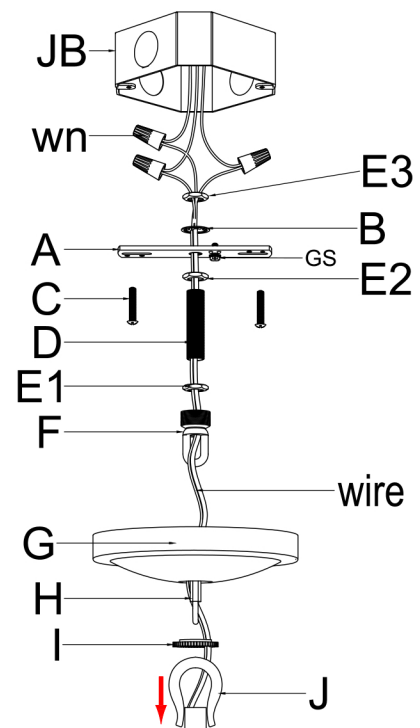

Fig. 3
CONNECTING THE WIRE (Fig. 3)
11. Connect the electrical wire as shown in Fig. 3, making sure that all the wire connectors are secured. If your junction box has a ground wire (green, or bare copper), connect fixture's ground wire to it. Otherwise connect fixture's ground wire directly to the crossbar (A) using green screw provided.
12. Tuck wire connections neatly into junction box (JB).
13. Raise canopy over collar loop (F) and secure with collar ring (I).